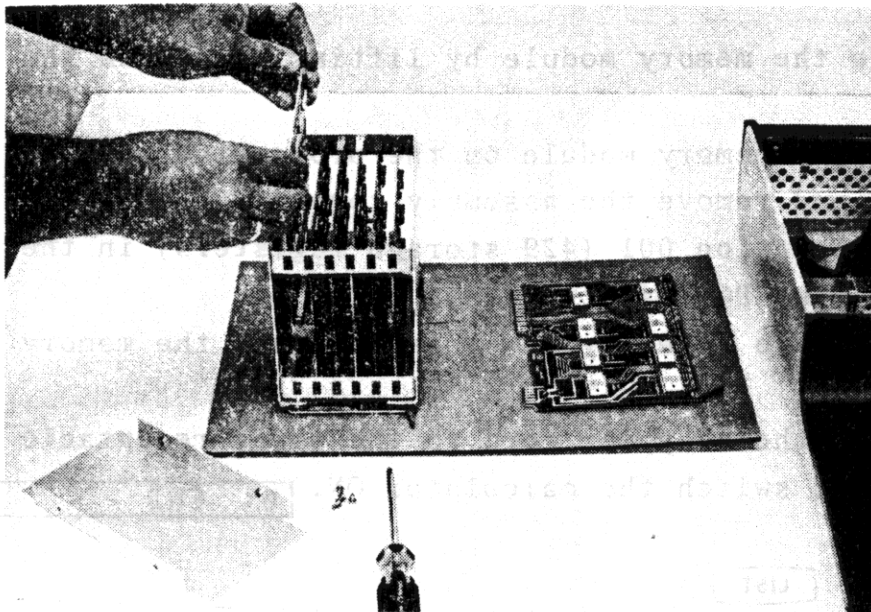

Figure 2-11. Exchanging PC Boards in the Memory Assembly
4. Place a piece of foil-lined carton on a flat surface and lay the A26 assembly on the foil as shown in Figure 2-11.
7. Place the memory module on the protective foil as shown in Figure 2-11 and remove the assembly cover.